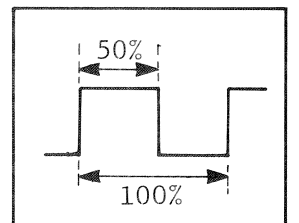

Fig. 36
- Press C4 key and adjust PWM 50% VR6 (PANEL BOARD A) so that duty ratio of pulse is 50%. (Fig. 36)